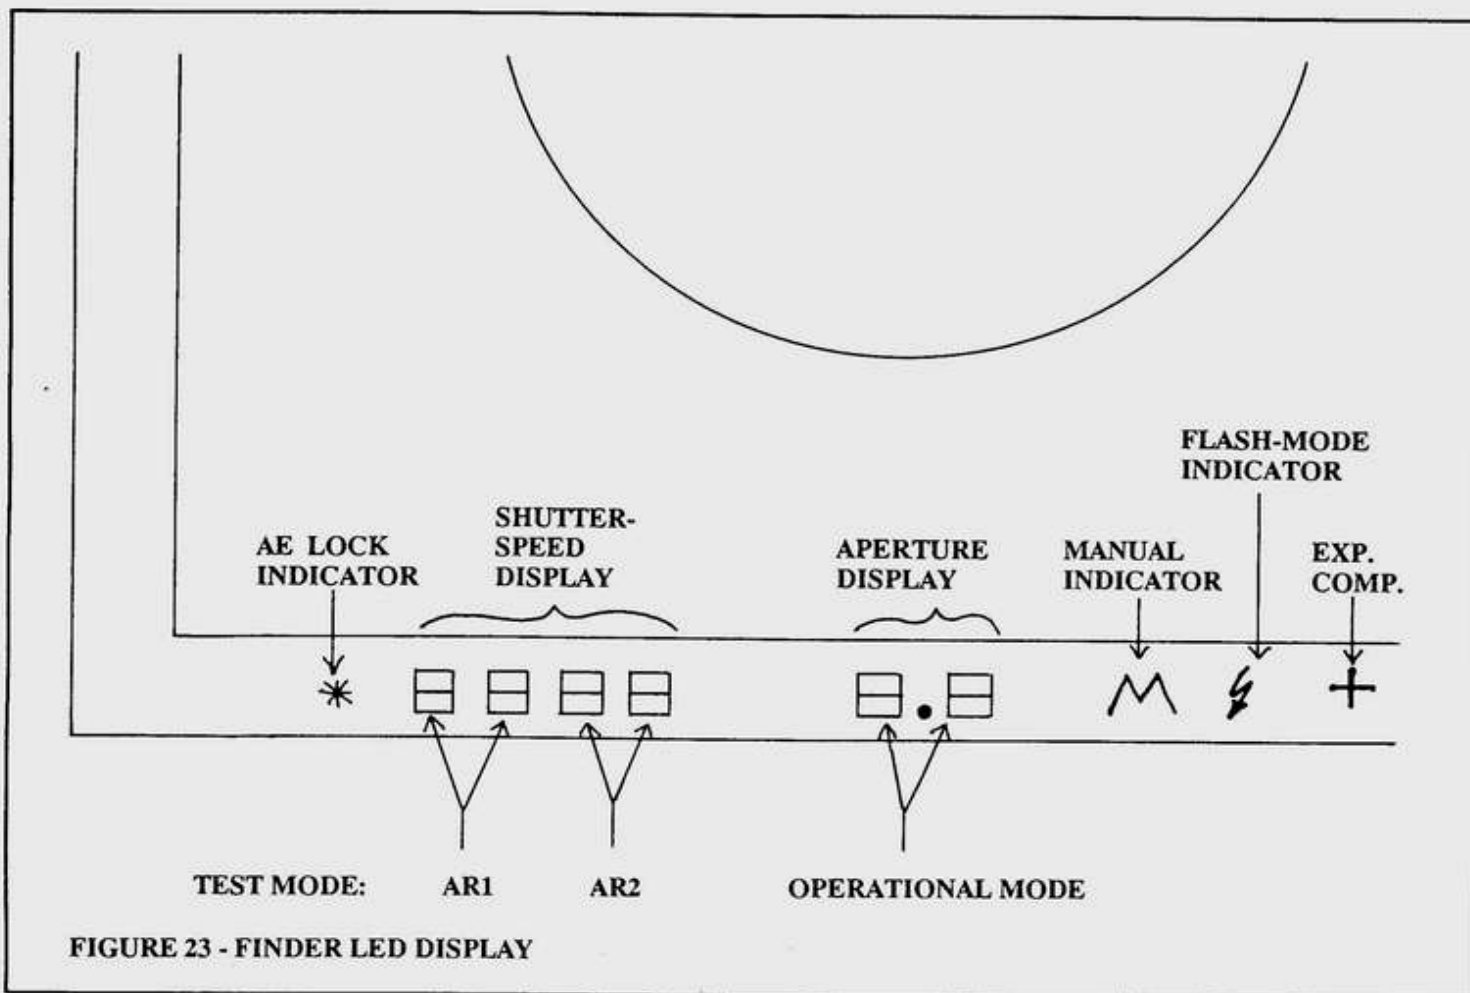

FIGURE 23 - FINDER LED DISPLAY
1. The dedicated flash automatically sets the flash speed between 1/60 and 1/250. The flash-mode indicator, Fig. 23, turns on to indicate that the flash is ready. On manual, you can use any of the speeds slower than 1/250.